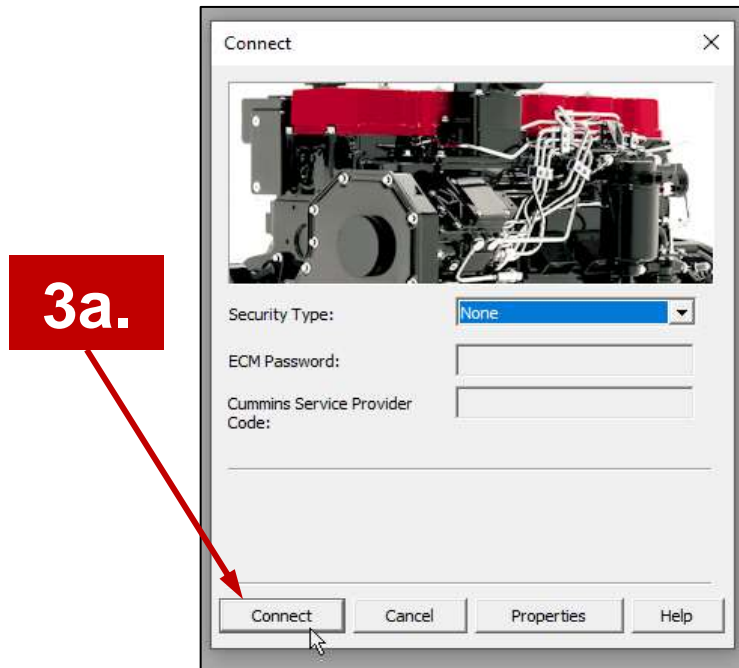

Figure 5.
Step 3a: Click “Connect.” NOTE: No security type or password credentials are required. *Figure 5*